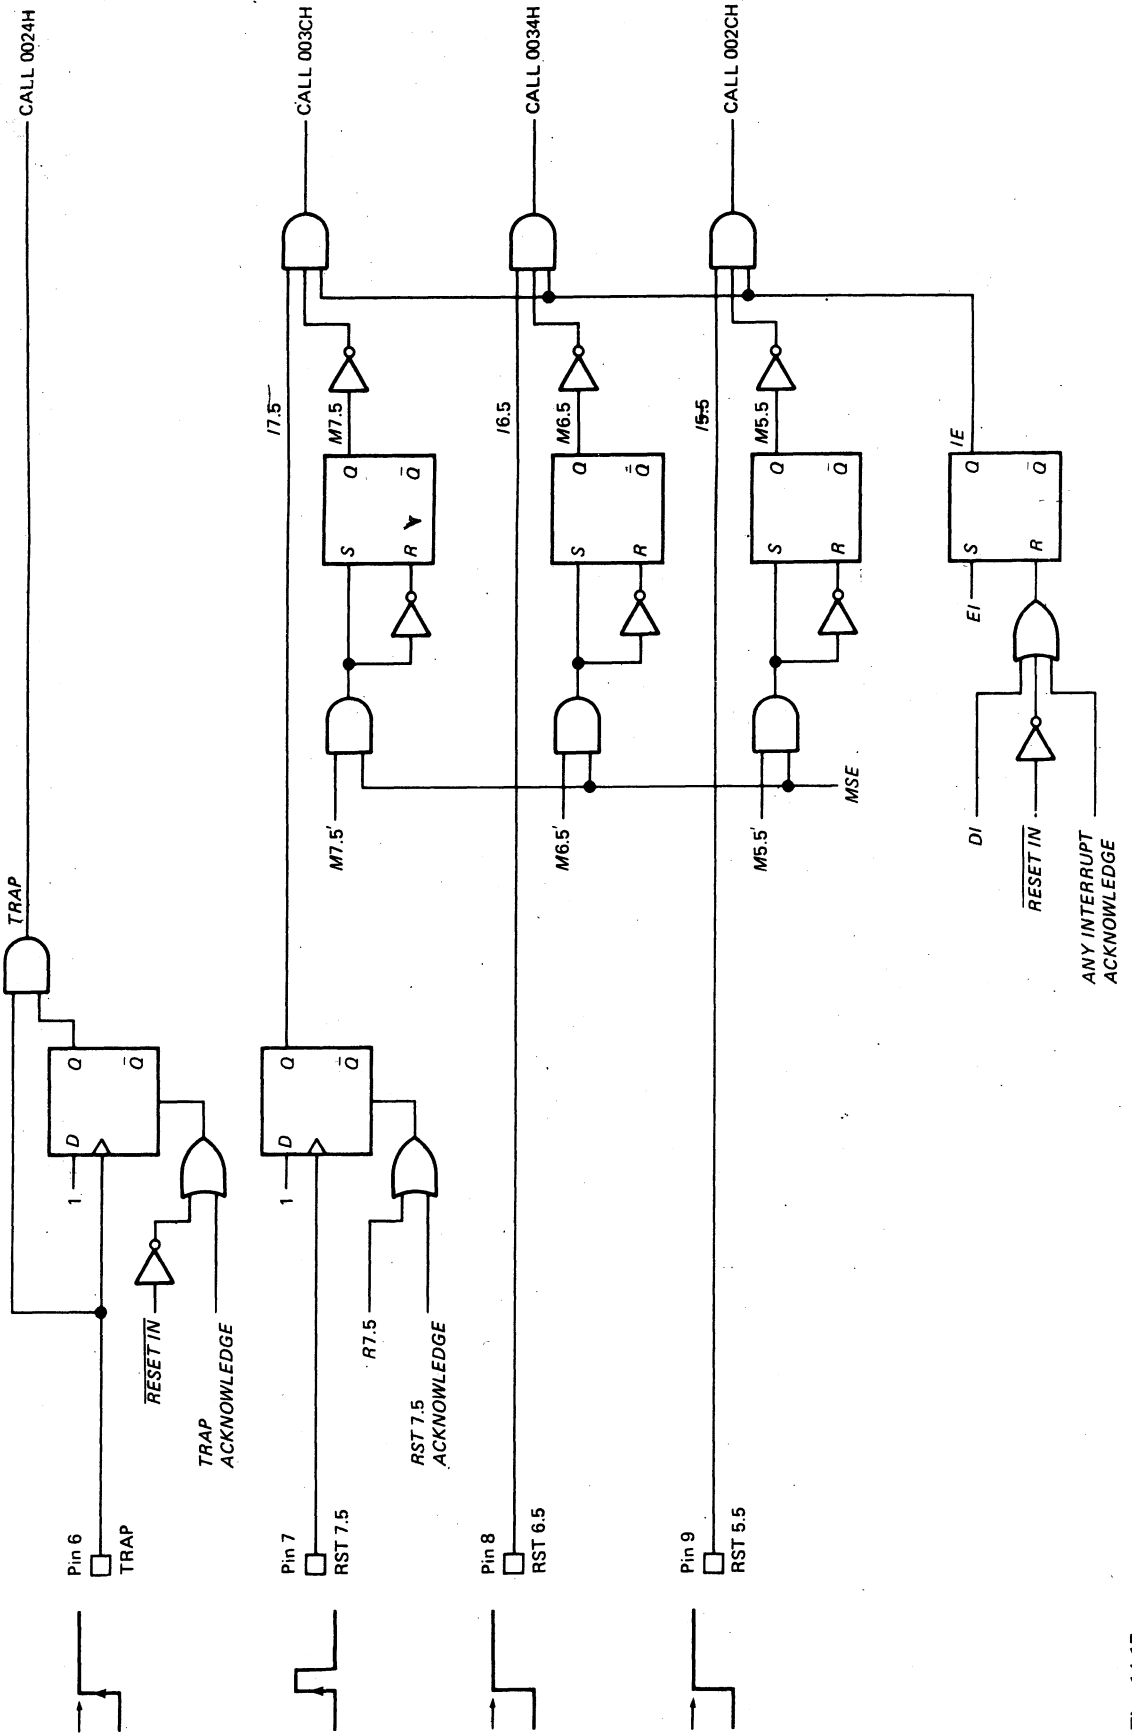

Fig. 14-17
interrupts *I7.5*, *I6.5*, and *I5.5* are all high in Fig. 14-17. Which interrupt does the CPU service first for each of the following:
- 14-8.** In Fig. 14-17, *M7.5*, *M6.5*, and *M5.5* are all low. What happens to interrupt masks for each of the following: